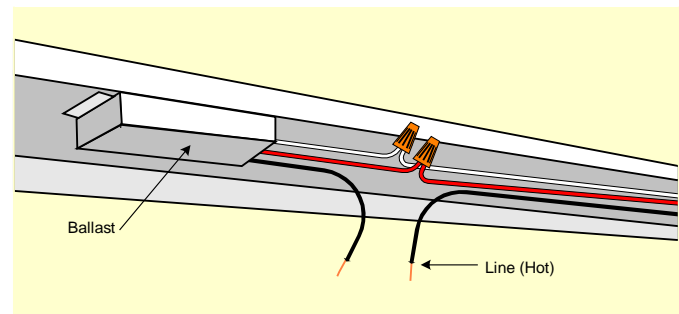

Figure 2: Break the connection
3. Break the connection by either removing the existing wire nut or cutting the wire (Figure 2).